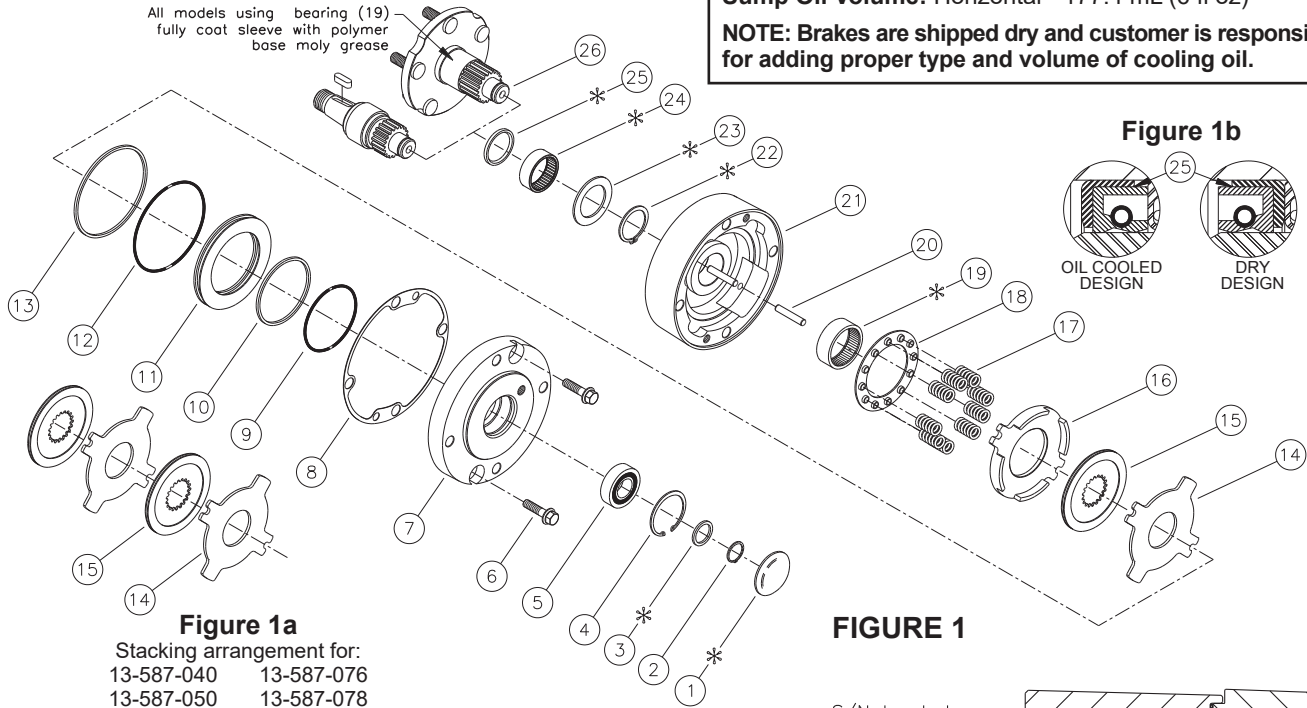

Figure 1a
- Install washer (23) and retaining ring (22) on shaft (26) of applicable brakes.
- Install dowel pins (20), spring retainer (18), and new springs (17) in cover plate (21). Be sure to install new springs (17) according to the spring pattern and color recorded during disassembly. Different colored springs must be positioned in a symmetrical pattern. Contact ZF Off-Highway Solutions Minnesota Inc. if you have questions regarding spring pattern.
- Install new return plate (16), new rotor discs (15), and new stator discs (14) over dowel pins (20) and spline of shaft (26). **NOTE: See Figure 1a for the stacking arrangement for a list of model numbers.**
- Install new o-rings (9 & 12) and new back-up rings (10 & 13) on piston (11). Note the order of o-rings and back-up rings. **NOTE: Be careful not to scratch or mar piston (11).**
- Carefully insert piston (11) into pressure plate (7). Note the direction of piston (11). Be careful not to shear the o-rings or back-up rings.
- Install new case seal (8) on cover plate (21).
- Position pressure plate (7) on cover plate (21) aligning dowel pins (20) with the holes in pressure plate (7). Install cap screws (6) and tighten evenly to draw pressure plate (7) to cover plate (21). Torque cap screws 47.5-54.2 N·m (35-40 lb·ft).